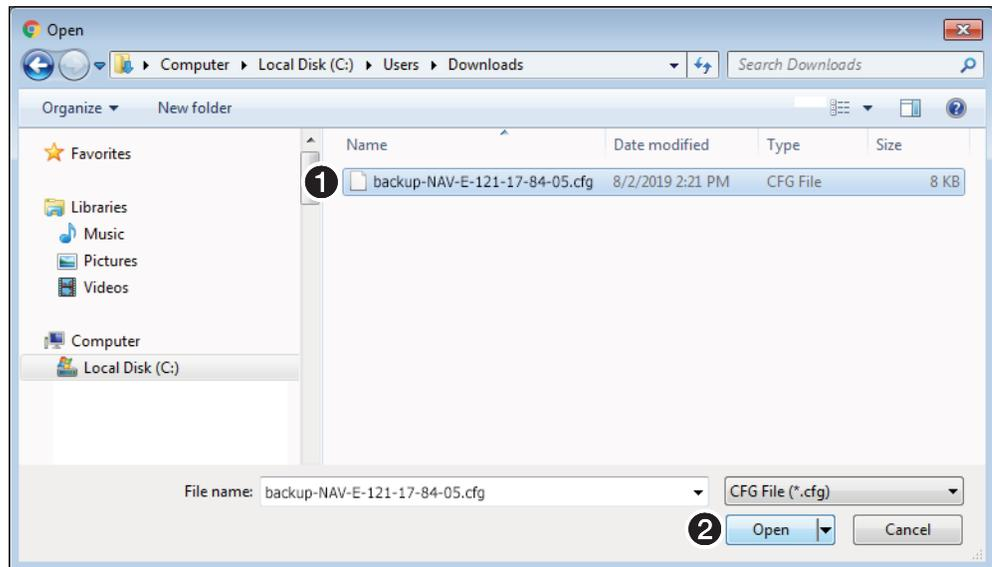

Figure 22. Open Dialog Box
An Open dialog box opens (see figure 22).
3. Navigate to the folder where the Restore file is saved (typically the Downloads folder) (see figure 22, ❶). Select the file.